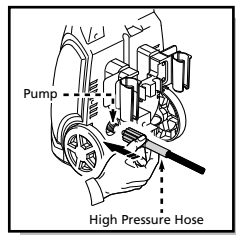

Fig. 4
- Screw the high pressure hose (clockwise) on the back of the unit at the bottom (Fig 4). The end of the hose must be inserted into the water outlet far enough so the collar can thread onto the outlet threads until hand tight. Do not use pliers or vice grips to tighten. If it takes fewer than six or so turns you have not properly tightened the high pressure hose fitting. It is easier to position the power washer in front of you so to ensure that the threads are started correctly. Failure to properly tighten the high pressure hose will result in the hose slipping or popping off immediately upon turning the unit on. Do not worry about damage if this occurs - just reinstall and take extra care at screwing on the high pressure hose fitting.